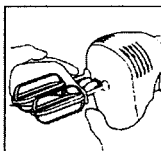

Figure 5
6. Place heel of the hand at the end of the Spatula. Use slight pressure to direct Spatula Grips into the Slot Receptacle located on the underside of the Mixer. Grips will click into place. (See Figure 5.)